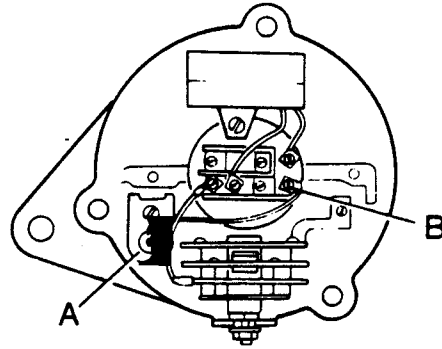

Figure H12
10. If the output is less than 28 amperes **stop the engine** and disconnect the surge protection diode. See Figure H12.